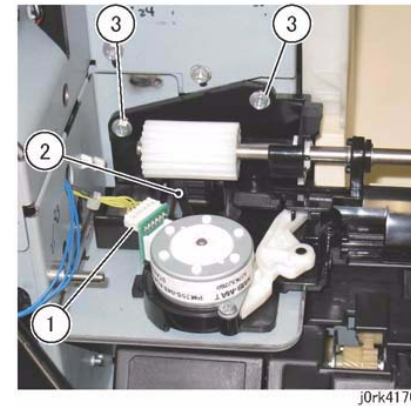

Figure 2 Connector/Belt Removal
4. Disconnect the connector. (Figure 2)